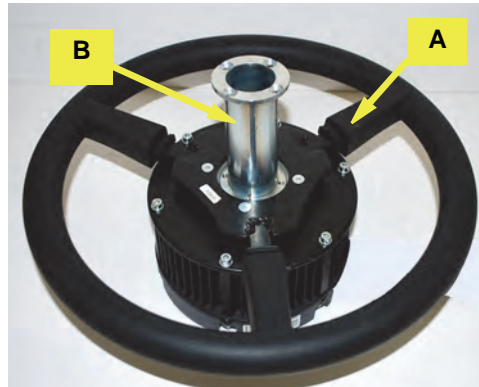

Figure 1a: Inserting shaft adapter into steering wheel
- a. Place the VSi steering wheel assembly **A** on a clean surface with the wheel facing up. Insert shaft adapter **B** into steering wheel **A** (Figure 1a).